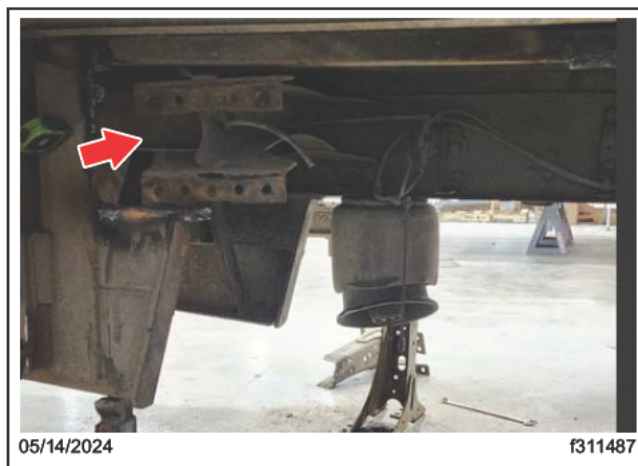

Fig. 26, Rear Crossmember
5. **For rail replacement procedure only:** Remove the hucks from the rear crossmember, and use bolts on the left-hand side to secure the crossmember. The rear crossmember can be taken out for cleaning, but it needs to be installed with bolts before welding the new frame rail. See Fig. 26.